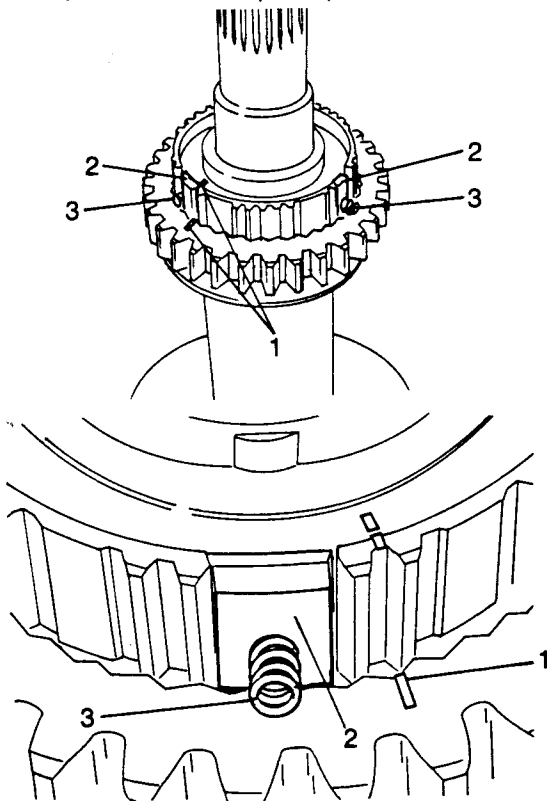

Fig H1.151
- (2) Refer to Fig H1.151. Fit the sliding blocks in place with the rounded surface (2) facing outwards.
- (3) Fit the three springs (3) into the holes of the sliding block in such a manner that they are housed in the hollows of the inner body.